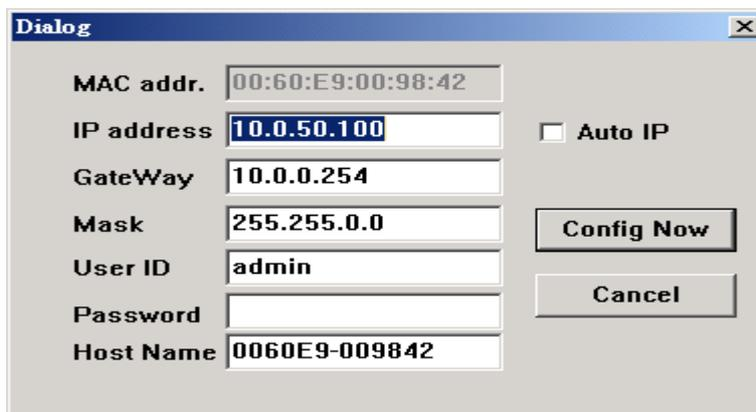

Figure D2. Configuration dialog box
- 2 Select the device one want to configure from the **IP Address** column, click on the **Config** button, a configuration window will pop up as shown in Figure D2: